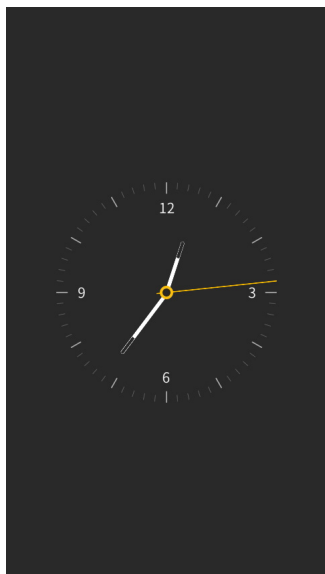
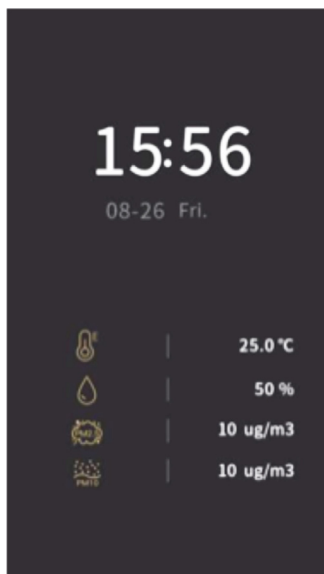

Fig. 2.12.1
Fig. 2.12.2
(1) Clock screen-saver shown as Fig. 2.12.1, displayed after entering the screen saver. Digital clock shown as Fig. 2.12.2, the type and numbers of air quality information is configured by ETS, which is up to 4 items. The three default pictures in the program are shown as in Fig. 2.12.3, Fig. 2.12.4 and Fig. 2.12.5. The album can choose 1 or 3 pictures as the screensaver, display the first picture when the number of pictures is 1; it will automatically switch picture in every 5s when the number of pictures is 3.
(2) Inserting new pictures through Micro SD card, specific steps are as follow: